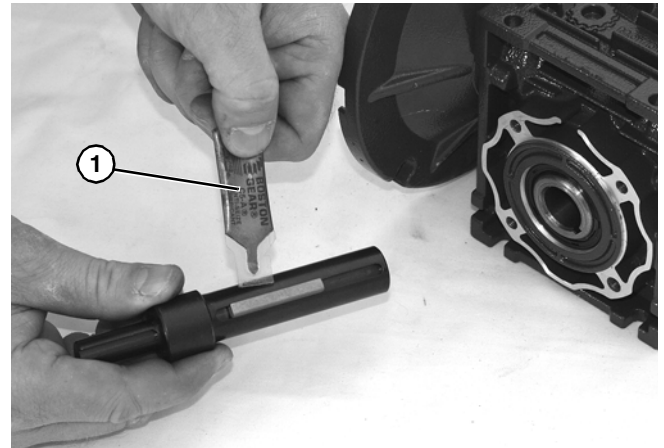

Figure 33
5. Apply anti-seize (**Figure 33, item 1**) to shaft.